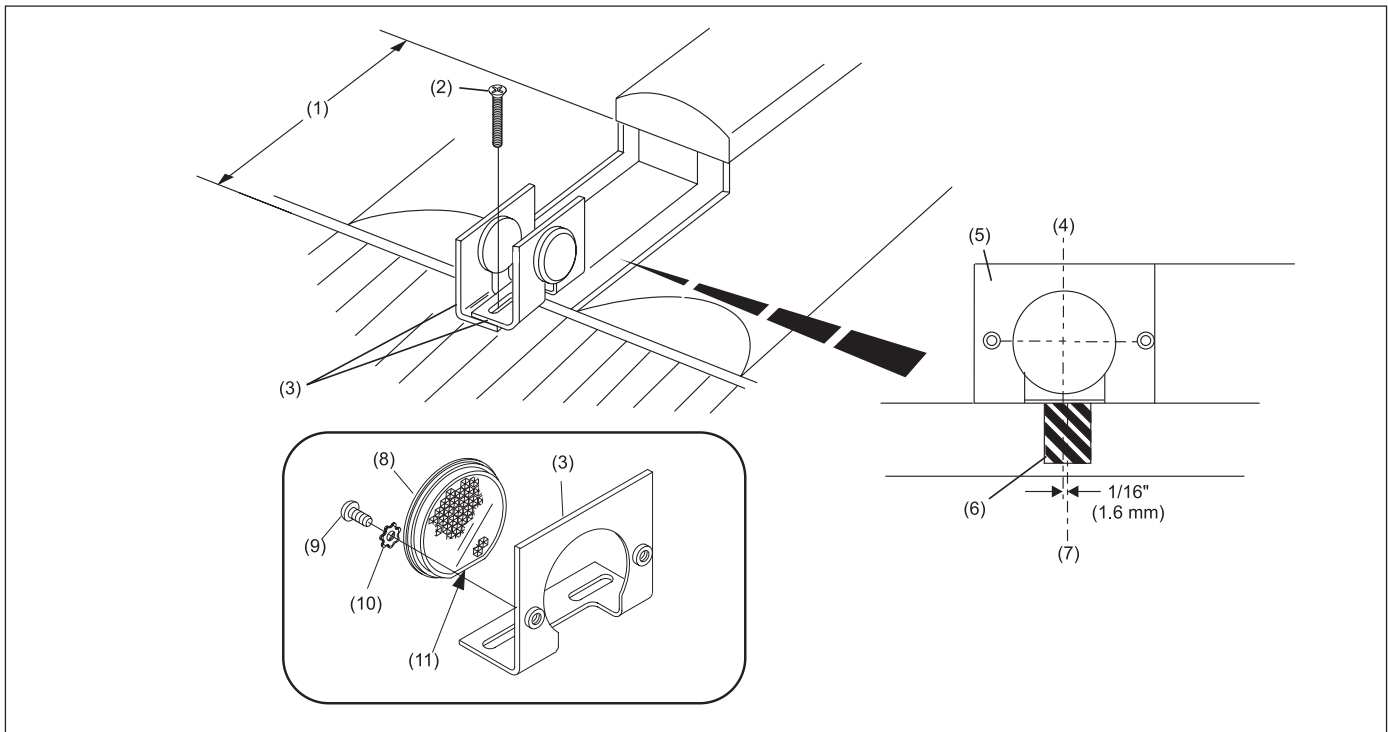

Figure 14.
2. Position reflector in bracket with flat area down (toward floor). Secure reflector to bracket with two #6-32 x 5/16" pan head screws and two star washers. Refer to *Figure 14*.
3. Position the mounting bracket with reflectors centered 1/16" (1.6 mm) toward the approach side of the center of the foul line and mount the brackets using four #6 x 3/4" round head wood screws. Refer to *Figure 14*.